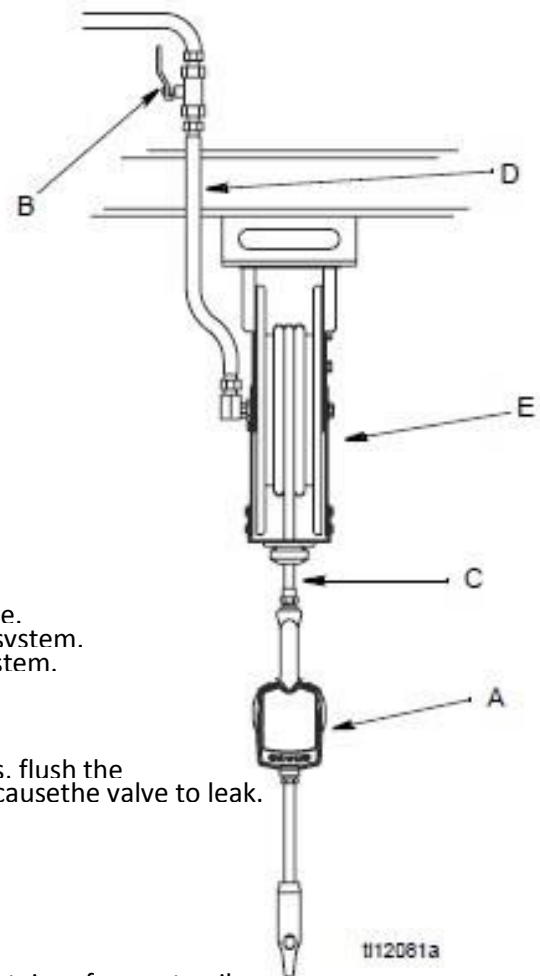

FIG. 1
FIG. 1 shows a typical hose reel installation.
1. Close the fluid shutoff valve (B, FIG. 1) at each dispense position.
5. Slowly open the shutoff valve (B, FIG. 1) at the dispense position. Flush out a sufficient amount of oil to ensure that the entire system is clean. Close the valve.